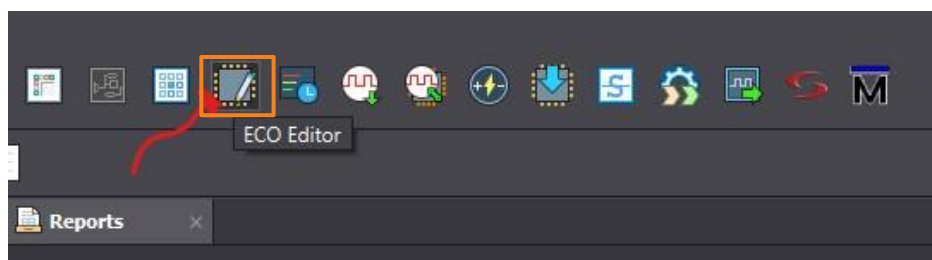

Figure 3.56. Radiant ECO Editor – Icon
1. Click on the ECO Editor tool icon, shown in Figure 3.56, or click **Tools -> ECO Editor** to open the tool.